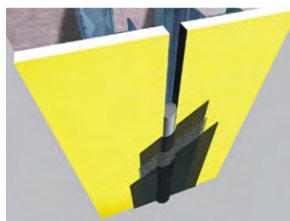

Figure 14
- c. Using a brush or 19 mm (3/4 in) nap roller, apply a liberal coat of AquaFlash Liquid material to the backer rod and adjacent substrate surface to the width of the AquaFlash Mesh - Figure 14.